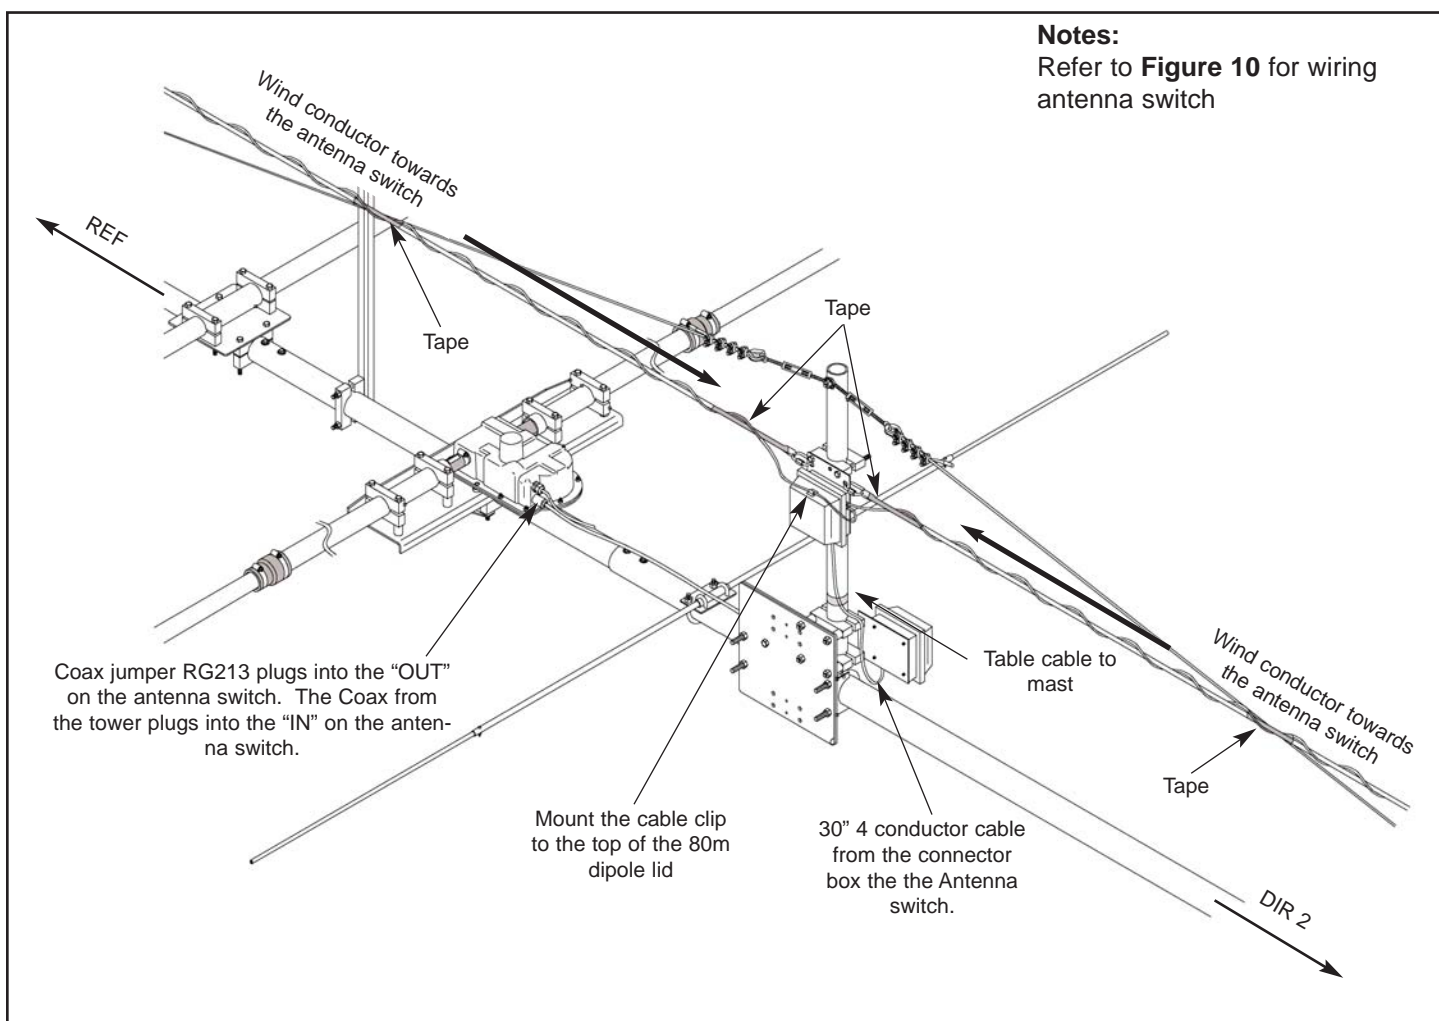

Figure 8
- Refer to **Figure 8** for wiring the 80m dipole if you do not have the connector box option. Refer to **Figure 9** for wiring the 80m dipole if you have the connector box option.